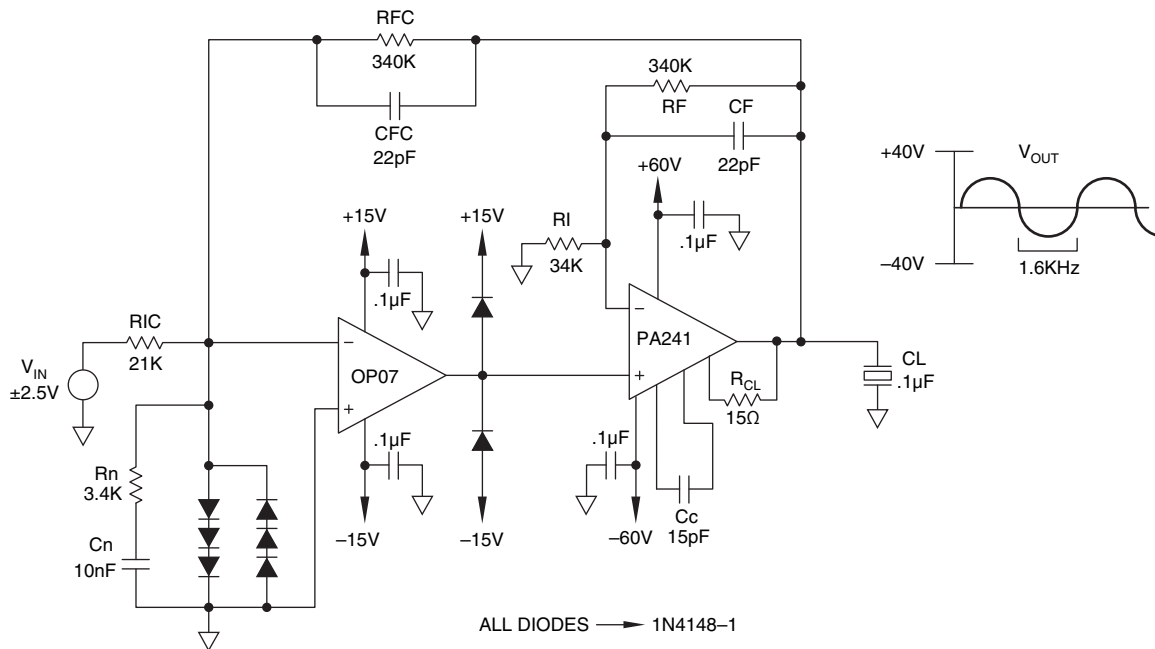

FIGURE 33. PA241 COMPOSITE PIEZO TRANSDUCER DRIVE
There are design cases where the input characteristics of a power op amp may not be sufficient to meet required specifications. In these cases one can still have the advantages of using the power op amp for linear analog control, but can optimize the front end of the circuit to meet the required specifications. A composite amplifier such as Figure 33 (see following page) will provide a highly accurate 75uV input offset voltage versus the 40 mV input offset voltage of the PA241. In the composite amplifier, the PA241 acts as a booster running in a closed loop gain of 11. The PA241 "booster" and the OP07 form a new composite amplifier with the feedback from output all the way back to the input of the OP07.
The application in Figure 33 (next page) provides an excellent opportunity for us to utilize our knowledge of stabilizing circuits with capacitive loads, as well as acquire new techniques for dealing with stability and composite amplifiers.
We will run the booster amplifier in a closed loop gain of 11 as shown in Figure 33 to allow more margin to work with when compensating the capacitive load. We know this from experience in designing many power op amp circuits with capacitive loads on the output.
P.S. — Refer to Figure 33. The 1N4148-1 diodes on the input of the OP07 provide differential and common mode overvoltage protection from transients through CFC. Piezo elements